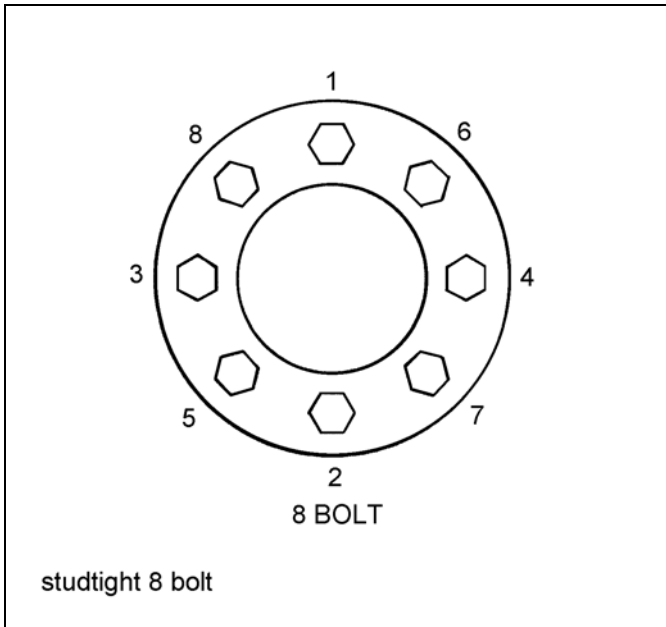

Figure 4-17: Stud Tightening Sequence
4. Install the flange nut and tighten to 50 foot-pounds using the sequence in **Figure 4-17**. Then tighten to full torque of 500 to 550 foot-pounds.
Improper tightening sequence	Follow proper tightening sequence (See Figure 4-17.)